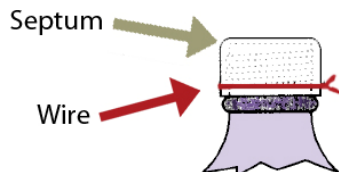

Fig. 4A Septa wired to vessel
- For long-term storage the septum should be secured with a copper wire (Fig. 4A)